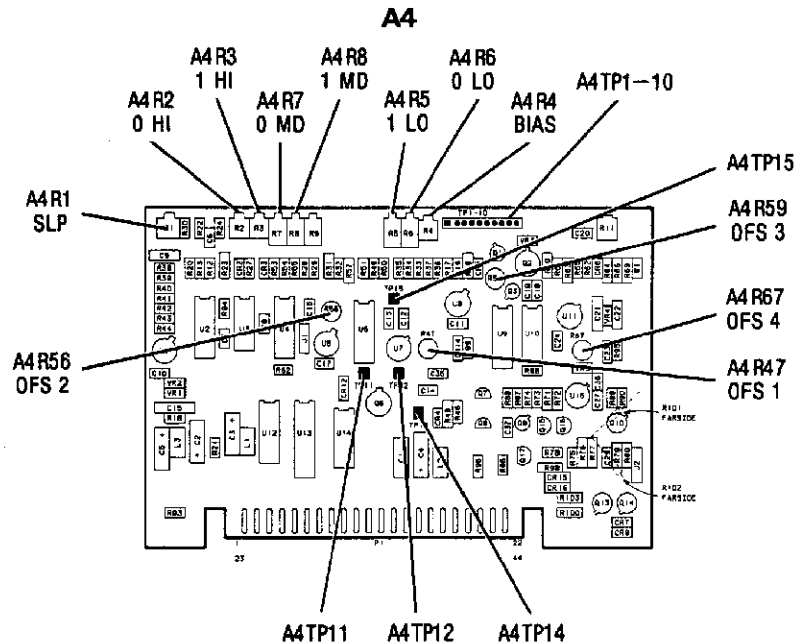

Figure 5-36. ALC Adjustment Locations
2. Float the ground on the Digital Voltmeter and measure the voltage between A4TP12 and A4TP14. Refer to Figure 5-36 for adjustment locations. Adjust A4R47 (OFS 1) for 0.000 ± 0.001 Vdc.